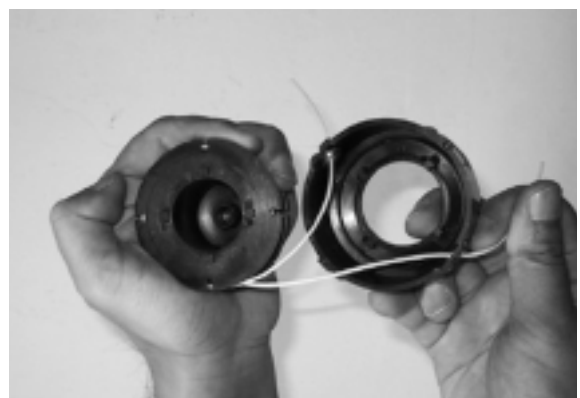

Fig. 26
7. Insert the line through each eyelet in the spool carrier and slide the spool into the carrier. (Fig. 26)